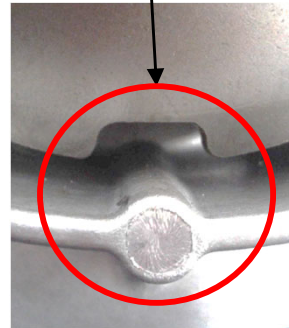

Figure 16
- Align the 2 notches on the sheaves ① and ⑩ and also the square shape notch or point or part number on the cap ⑭ (depending on cap model) together to make sure the pulley is balanced (see figures 16 - 19).